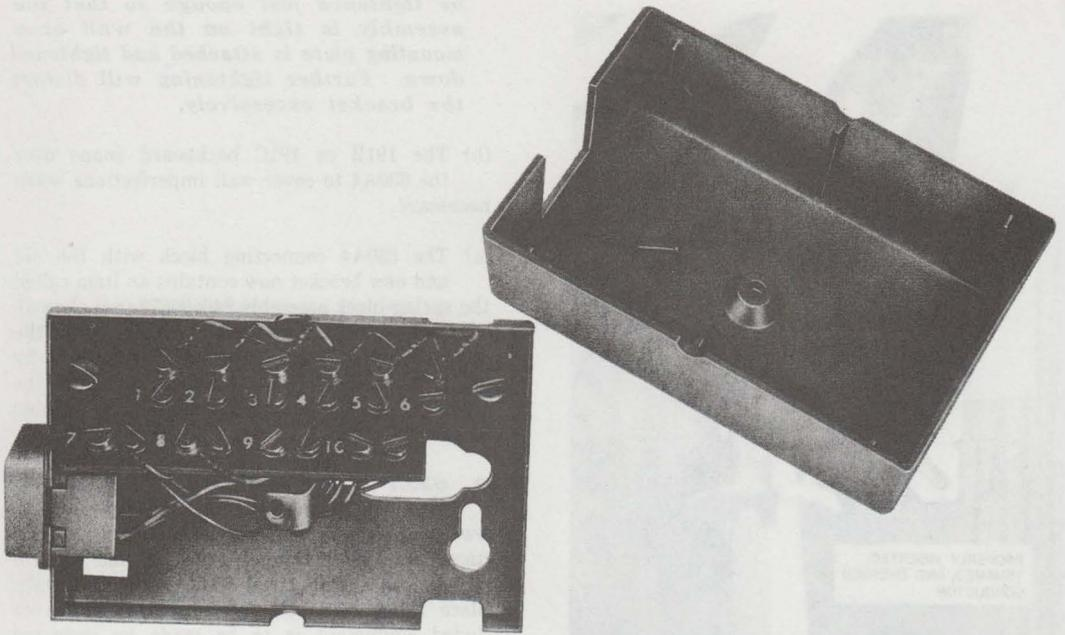
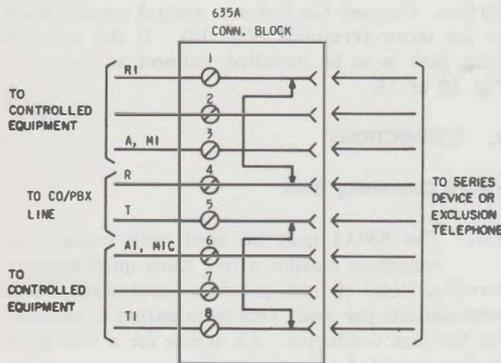

Fig. 10—635A (MD) Connecting Block
Fig. 11—Schematic Diagram, 635A (MD) Connecting Block
2.13 The **635A (MD)** connecting block contains a 650-type, 8-contact modular jack which is wired to eight screw terminals (Fig. 10). The 8-position plug on the series equipment is plugged into the modular jack, and the line and controlled station connections are made at the screw terminals. When a plug is not inserted, lead 1 is shorted to lead 4, and lead 5 to lead 8. Insertion of the plug removes the shorts and puts leads 1 and 4 and 5 and 8 in series with the series or exclusion equipment (Fig. 11). In this mode, continuity to the downstream equipment must be maintained through the series or exclusion equipment.
3.12 635A (MD) Connecting Block: Remove the cover from the block by loosening the screw in the center. Mount the block on a suitable vertical surface. Connect the line and control station leads (Fig. 11) to the screw terminals. Replace the cover. Connection of the series or excluded equipment is to be made by inserting the plug into the series jack.